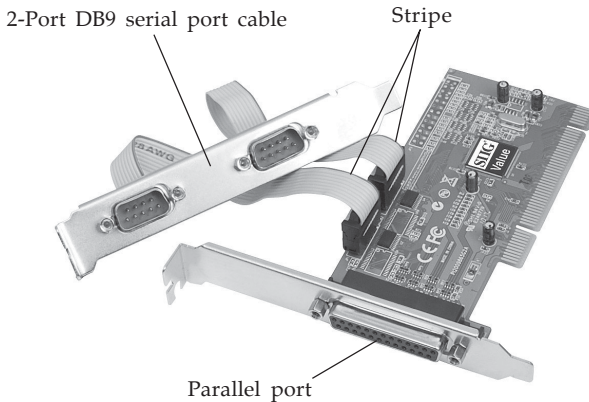

Figure 1. 2S1P Combo-Value
**Note:** When connecting the **2-Port DB9 serial port cable**, position the ribbon cable(s) so that the stripe is on the side farthest away from the parallel port. See **Figure 1**.
4. Connect the **2-Port DB9 (9-Pin) serial port cable** connector now and remove another slot bracket cover from from the system chassis. See **Figure 1** on page 2 for more details. Skip this step if you don't need any serial ports.